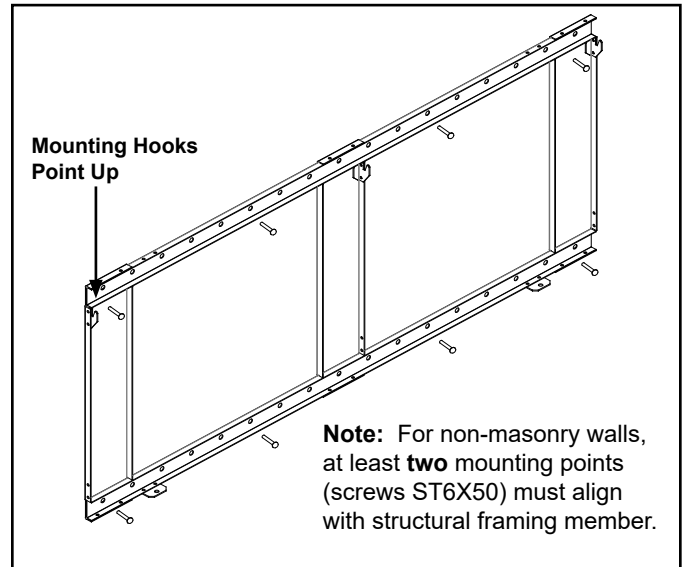

Figure 7 Bracket Attachment
- With mounting hooks pointed up, attach the bracket to the masonry anchors with ST6X50 screws. See Figure 7.